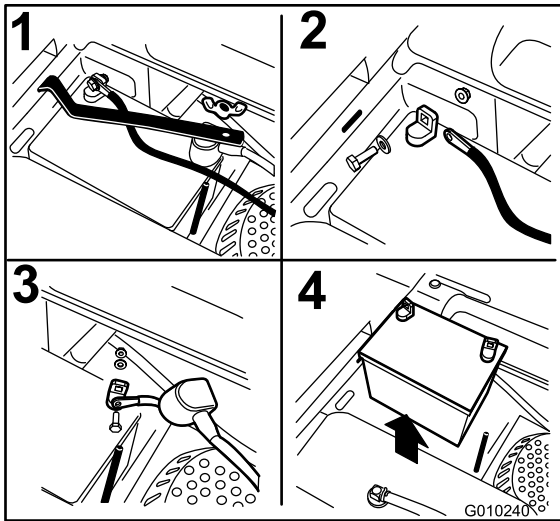

Figure 44
3. Remove the wing nut securing the battery clamp (Figure 44).
5. Slide the red terminal boot off the positive (red) battery terminal and remove the positive (+)(red) battery cable (Figure 44).
6. Remove the clamp (Figure 44).
1. Position battery in the tray with the terminal posts opposite from the hydraulic tank (Figure 44).
4. Secure the cables with 2 bolts, 2 washers, and 2 locknuts (Figure 44).
6. Install the clamp and secure it with the wing nut (Figure 44).
4. First disconnect the negative battery cable (black) from the negative (-) (black) battery terminal (Figure 44).